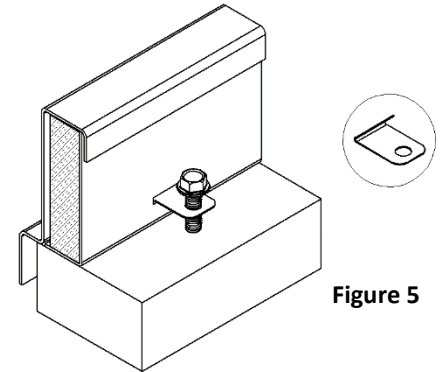

Figure 5
- If installing on a job-built curb, prefab, concrete or other style curb, bend brackets to attach. **(Figure 5)**